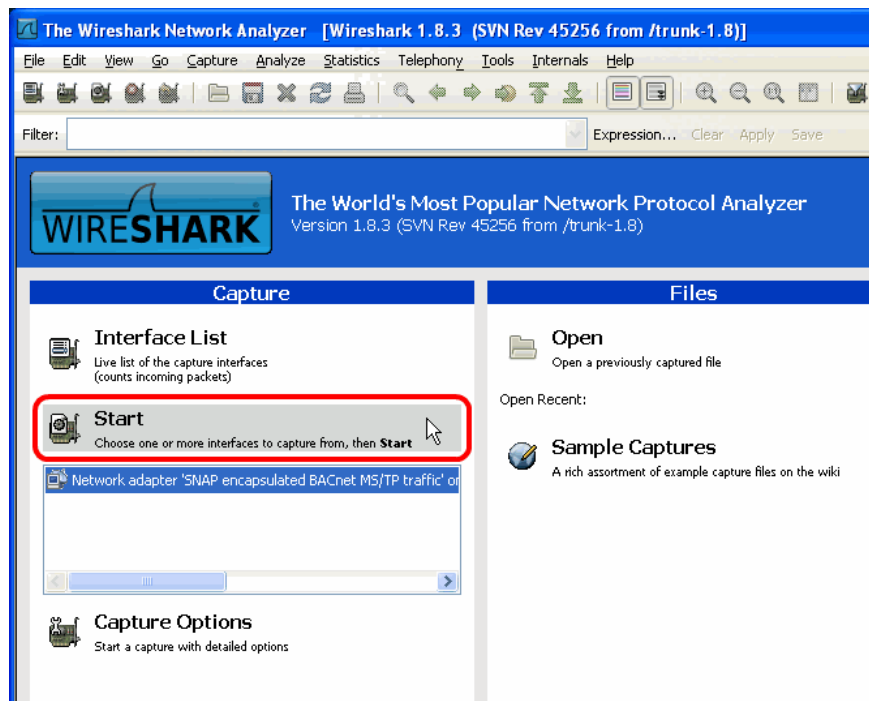

Figure 80: Start Remote Capture in Wireshark.
2. Click the **Start** button as shown in Figure 80.